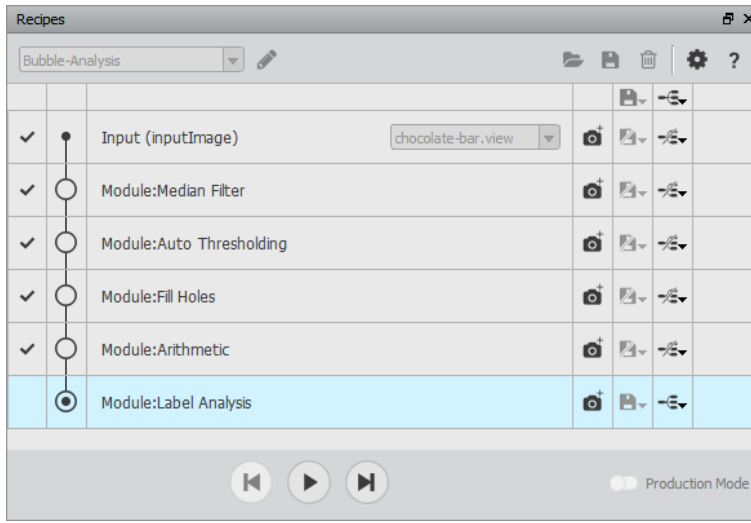

Figure 5.12: Breakpoint at the *Label Analysis* Step
- Set the recipe input to the extracted image (i.e., `chocolate-bar.view`) and set a breakpoint at the *Label Analysis* step (see Figure 5.12).